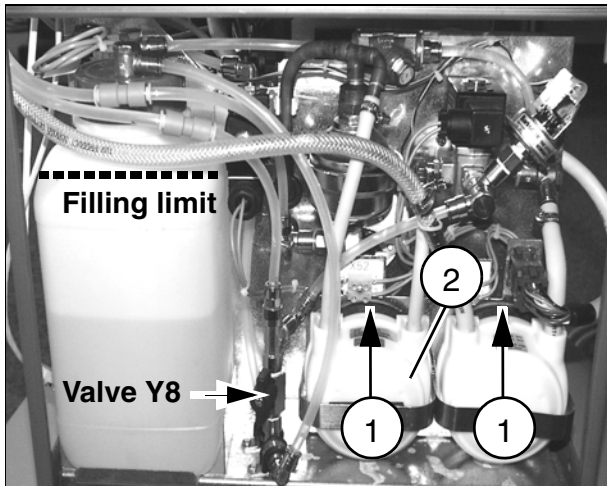

Fig. 10
- Open valve Y8(Fig. 10, 11),
- Open valve Y8 (Fig. 10/11),
- Close valve Y8 (Fig. 10/11);
- Fill the water reserve tank up to the fill line (Fig. 10/ 11) with distilled water.
### **Emptying the cooling circuit with the old pump (2/Fig. 10)**
- Open valve Y8 (Fig. 10),
- Press the black lock (1/Fig. 10/11) upward or downward and remove the hose pump head from the drive.